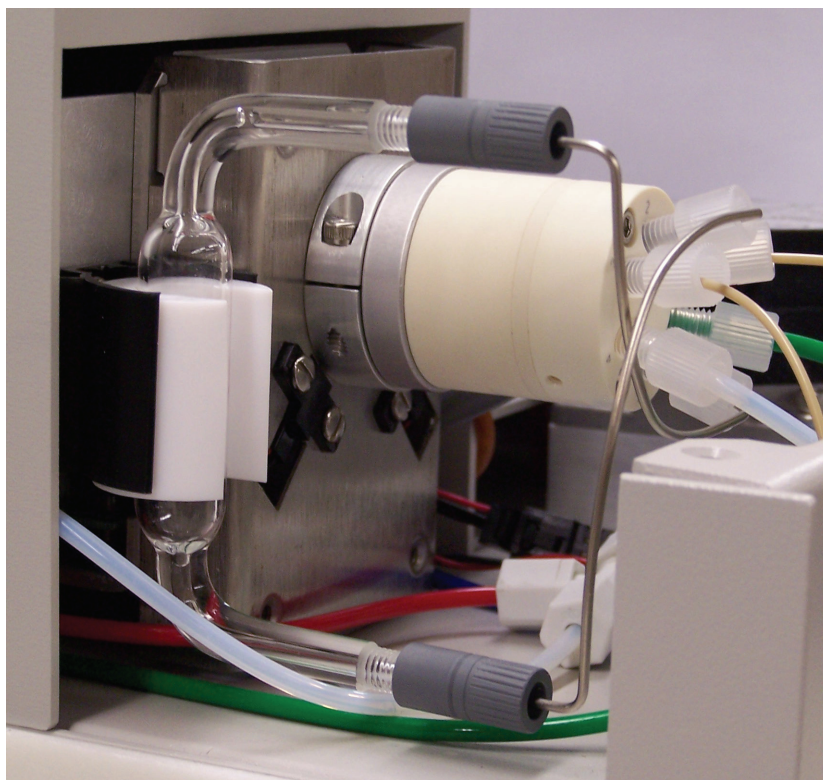

Figure 6.3. Sample Loop in Sample Loop Clip
8. Slide and snap the sample loop into the sample loop clip, depicted in Figure 6.3.